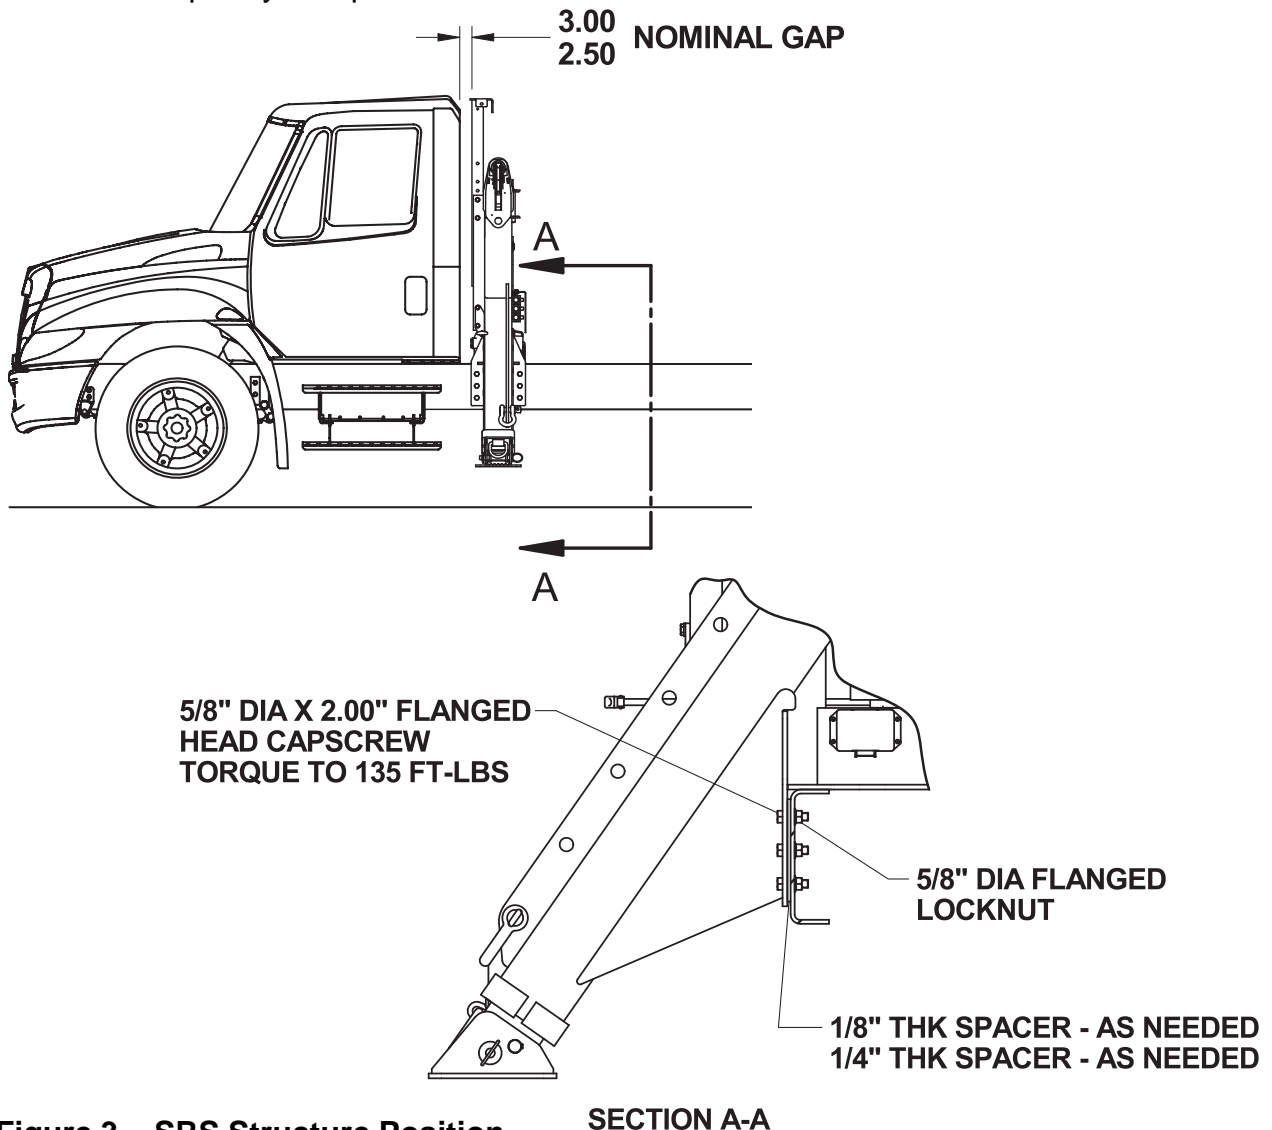

Figure 3 - SRS Structure Position
1. Set the SRS structure onto the chassis truck frame and position as shown in Figure 3 and temporarily clamp into place. Make sure that the SRS structure is square and level with the truck frame.